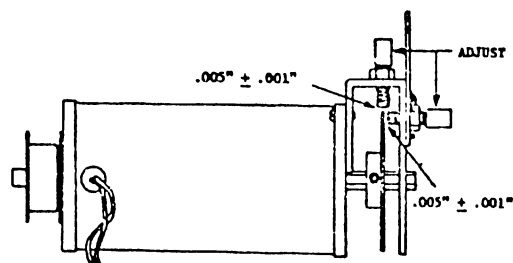

FIGURE 5-17 MAGNETIC PICKUP ADJUSTMENT
- 3) The distance between the edge/face of the timing disk and the pickups should be consistent along the circumference of the disk with a gap of  $.005'' \pm .001''$  ( $.127 \text{ mm} \pm .025 \text{ mm}$ ) (Figure 5-17).